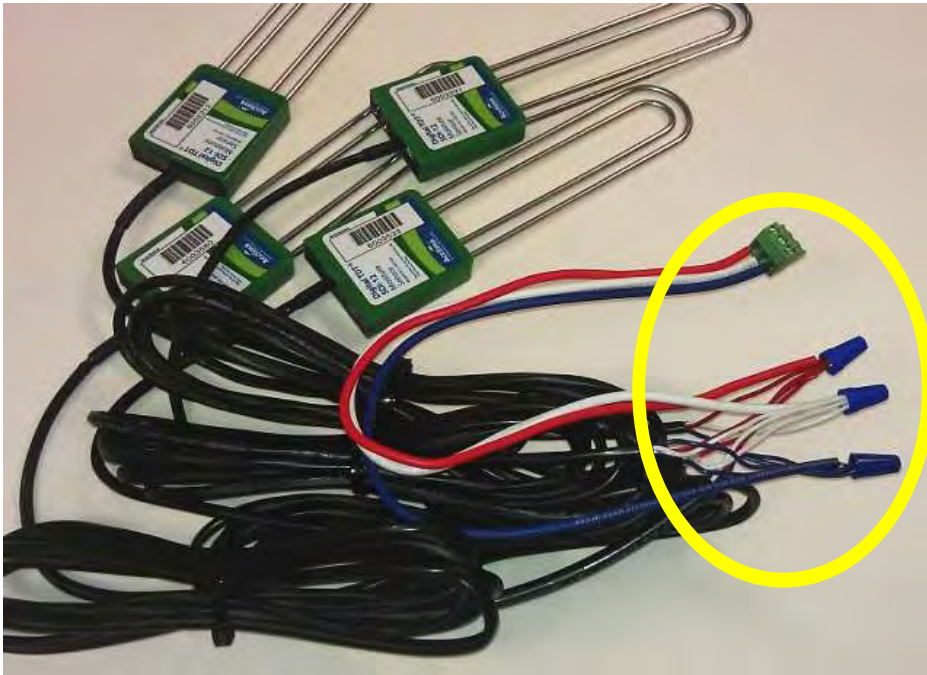

Figure 12 – Extended wiring diagram
- When connecting many sensors to one DataSnap, a wire splice may be necessary. This can be done by connecting all the red sensor wires to a separate, single wire and then connecting the single new wire to the terminal block in the appropriate position. Follow the same procedure to connect the white and blue wires. The wiring should look like figure 12. When the block is connected to the DataSnap, the location of the colored wires must match the colors on the DataSnap.